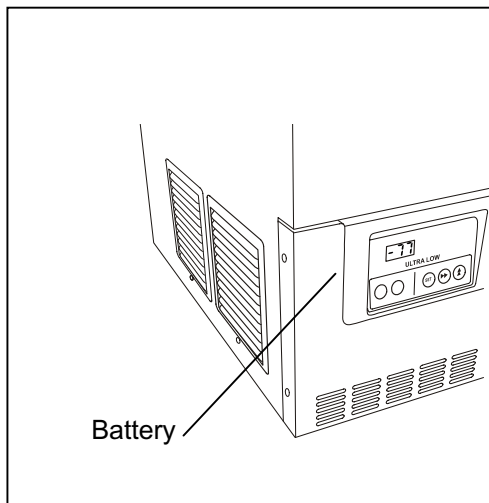

Fig. 1
This unit is provided a nickel-metal-hydride battery for the power failure warning device. The battery is located at the back of the control panel. (Fig. 1)
1. Remove 4 screws (A, B, C, D) on the side of the front panel to take off the front panel. Then remove 4 screws on the cover for the recorder mounting space and take off the cover (Fig. 1). After removing the cover, replace 4 screws.